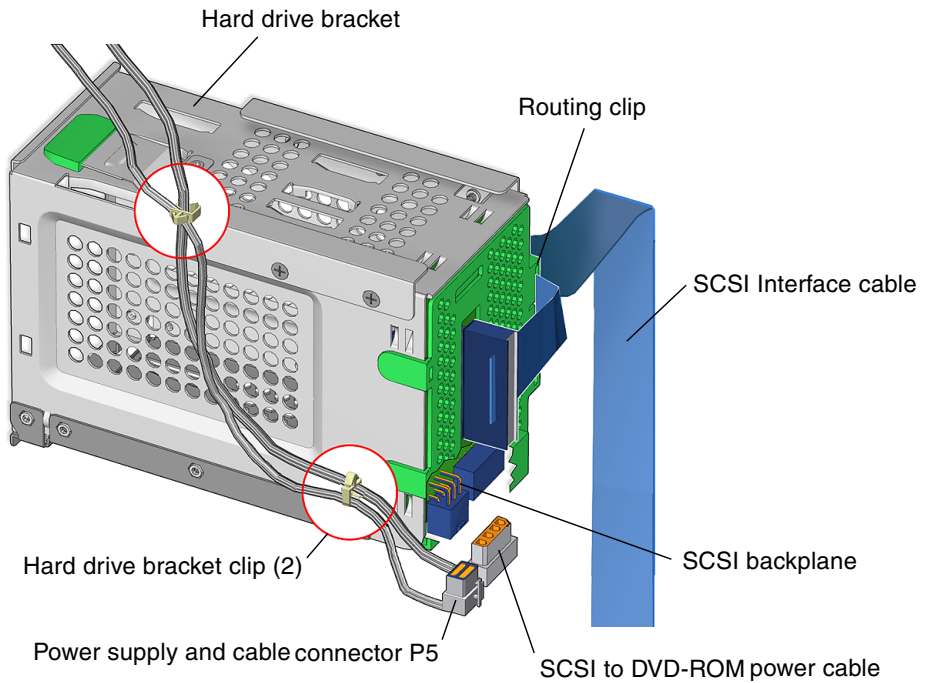

FIGURE 15-1 Installing the Power and Signal Cables for the Hard Drive Assembly
2. **Connect the SCSI interface cable to the SCSI backplane (FIGURE 15-1).**
3. **Route the SCSI interface cable through the routing clip (FIGURE 15-1).**
4. **Connect the two power cables to the SCSI backplane (FIGURE 15-1).**